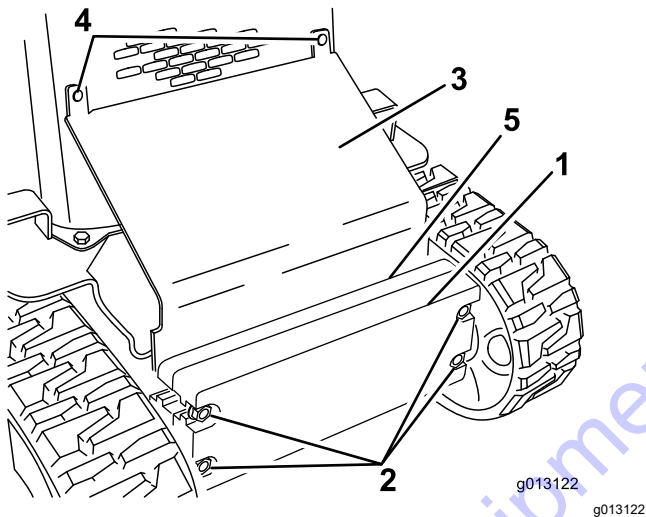

Figure 27
2. Loosen the bolts securing the weights (Figure 27).
3. Remove the carriage bolts and nuts securing the sloped plate (Figure 27).
10. Slide the sloped plate between the frame and the weights; secure it to the front screen grill using the carriage bolts and nuts removed previously (Figure 27).
11. Tighten the bolts securing the front weights (Figure 27).